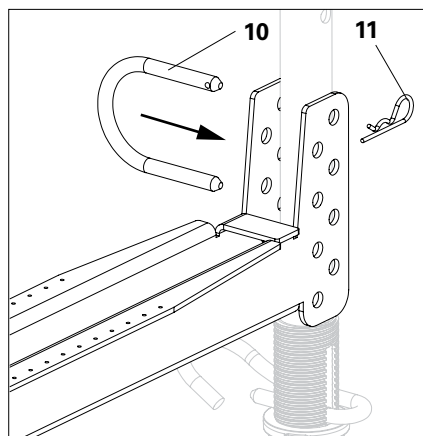

Fig. A1.18
4. Set the PD 5 Beam Waler to the required length and secure using the Double Pin Beam Waler (10) and Cotter Pin 4/1 (11) on both sides. (Fig. A1.18)